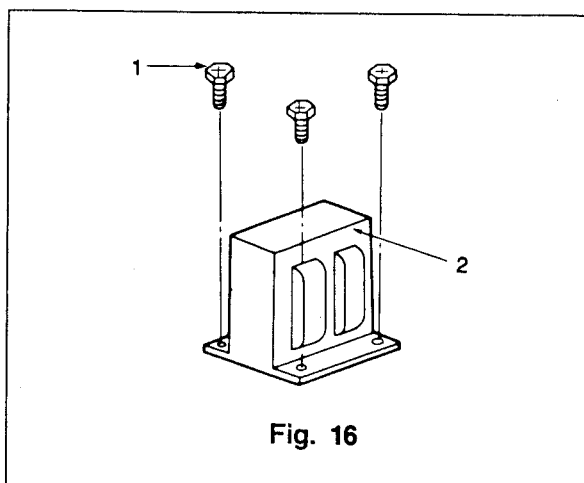

Fig. 16
4. Transformer Removal (Refer to Fig. 16)